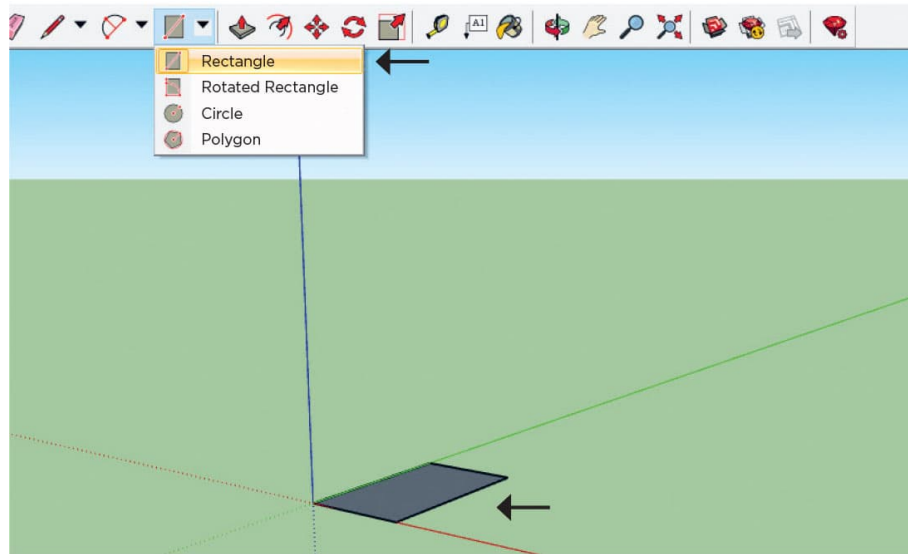

FIG. 1: Draw a rectangle by selecting the **Rectangle** tool from the menu.
1. Select the **Rectangle** tool from the Ribbon at the top of the screen. Then click and drag your cursor to create a rectangle of dimensions small enough to view on the screen (fig. 1). You can draw the rectangle anywhere on the work area.